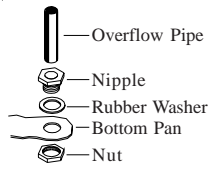

Fig. 5
- Install overflow assembly.** Remove nut and place nipple through the hole in the pan, with the rubber washer between the pan and the head of the drain nipple (Fig. 5). Screw on nut and draw up tight against bottom of pan. Insert overflow pipe in nipple to retain water. Overflow pipe may be removed to drain pan when necessary. A garden hose may be screwed on the drain nipple to drain water away from your unit.